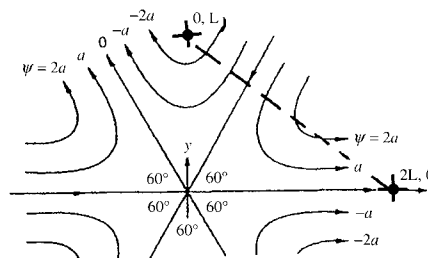

Fig. E4.7
**Solution:** This flow, with velocities  $u = \partial\psi/\partial y = 3U/L^2(x^2 - y^2)$ , and  $v = -\partial\psi/\partial x = -6xyU/L^2$ , is identical to Example 4.7 of the text, with “ $a$ ” =  $3U/L^2$ . The streamlines are plotted in Fig. E4.7. The volume flow per unit width between the points  $(2L, 0)$  and  $(0, L)$  is